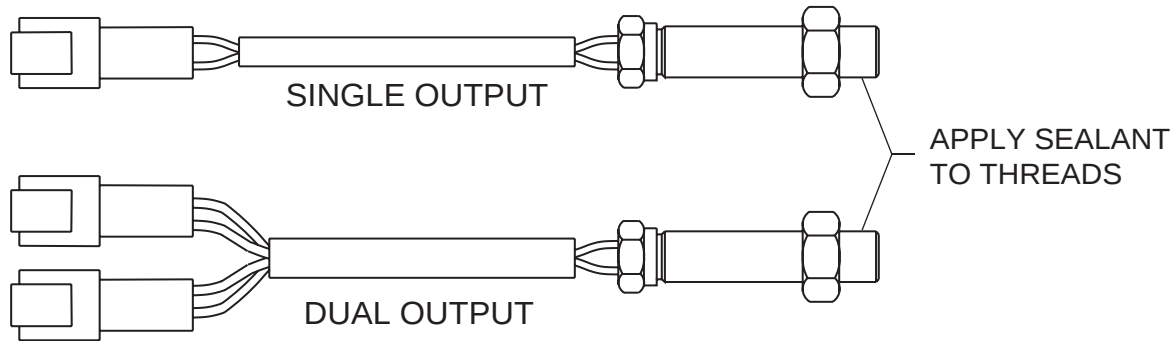

Figure 12. View of Typical Single and Dual Output Speed Sensors
2. Thread the lock nut onto the sensor and apply anaerobic sealant equivalent to MA908 (Loctite 242) to the threads of the engine speed sensor near the end away from the wires. See Figure 12.
2. Thread the lock nut onto the sensor. Apply anaerobic sealant equivalent to MA908 (Loctite 242) to the threads of the engine speed sensor near the end away from the wires. See Figure 12.